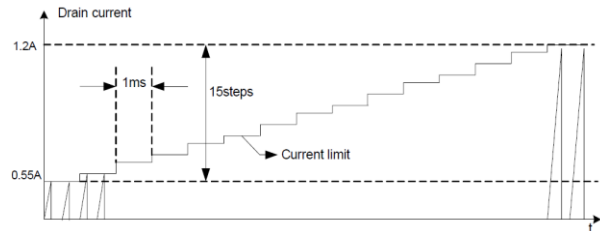

**Figure 18. Abnormal Over-Current Protection**
**4.3 Abnormal Over-Current Protection (AOCP):** Even though the power switch has overload protection and Current-Mode PWM feedback, these are not enough to protect the power switch when a secondary-side diode short or a transformer pin short occurs. In addition to startup, soft-start is also activated at each restart attempt during auto-restart and when restarting after latch mode is activated. The power switch has an internal Abnormal Over-Current Protection (AOCP) circuit, as shown in Figure 18. When the gate turn-on signal is applied to the power SenseFET, the AOCP block is enabled and monitors the current through the sensing resistor. The voltage across the resistor is then compared with a preset AOCP level. If the sensing resistor voltage is greater than the AOCP level, pulse-by-pulse AOCP is triggered regardless of uncontrollable LEB time. Pulse-by-pulse AOCP stops the SenseFET within 350ns after it is activated.